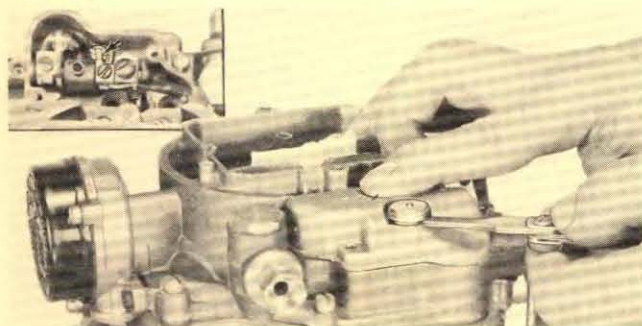

Fig. 11
5. Bowl Vapor Vent Adjustment: With the throttle valves closed and the choke blocked open, the vapor vent should open .062". Using a feeler gauge measure between the metering rod dust cover and the lower edge of the vapor vent cover Fig. 11. Adjustment of the vapor vent valve can be made by bending the tang on the vapor arm. "Insert Fig. 11."